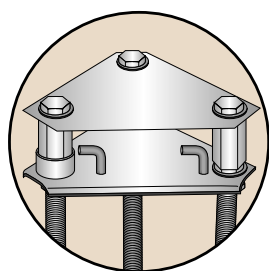

Fig 4,
3. To ensure that the foundation bolts remain parallel to one another during the concreting, lock the top template plate into position using the 3 set screws and anti vibration washers as shown. (See Fig 4)